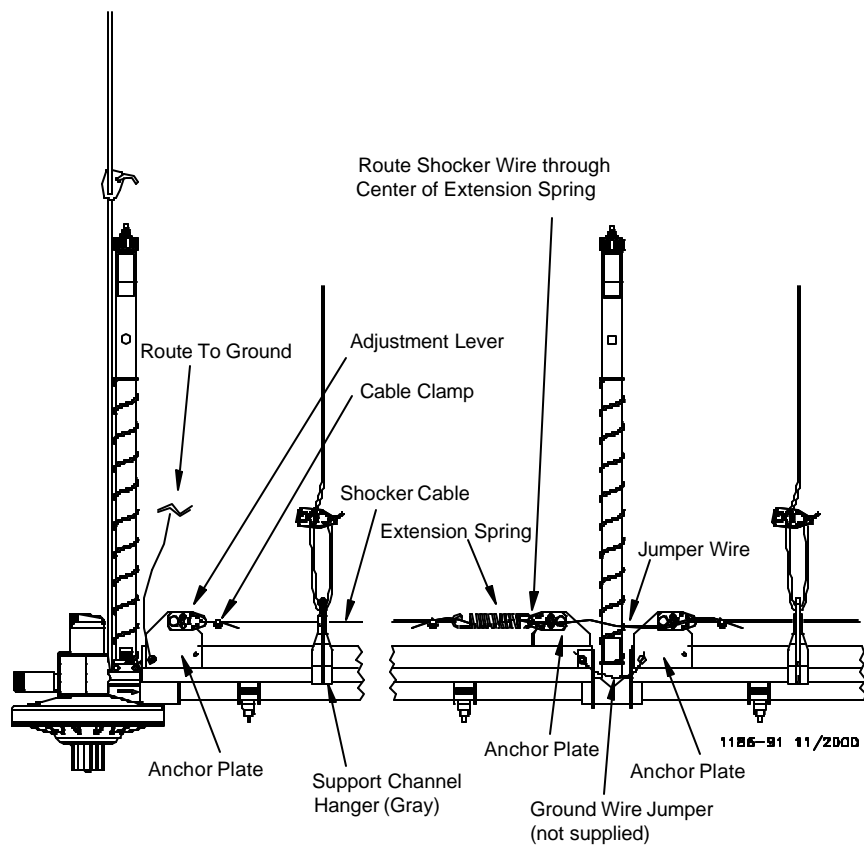

Figure 19. Anti-Roost Components
1. Make certain that an Anchor Plate with Adjustment Leveler is installed at the beginning and end of each anti-roost line. See **Figure 19**.
Trainer). See **Figure 19**.
It will be necessary to install a jumper wire at Stand Tube, Inlet Assemblies, etc., to insure the ground circuit. See **Figure 19**.